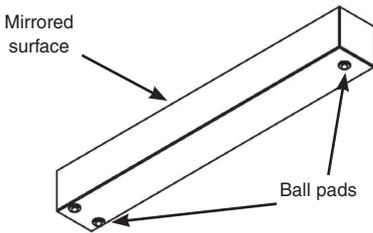

Figure 3: mirror with ball pads
- Locate the stick mirror on the two mounts so that the ball pads on the bottom of the mirror sit in the location features on the mounts (as in Figures 3 and 4). **Note:** two ball pads are located at the adjustable mount end and one at the fixed mount end.